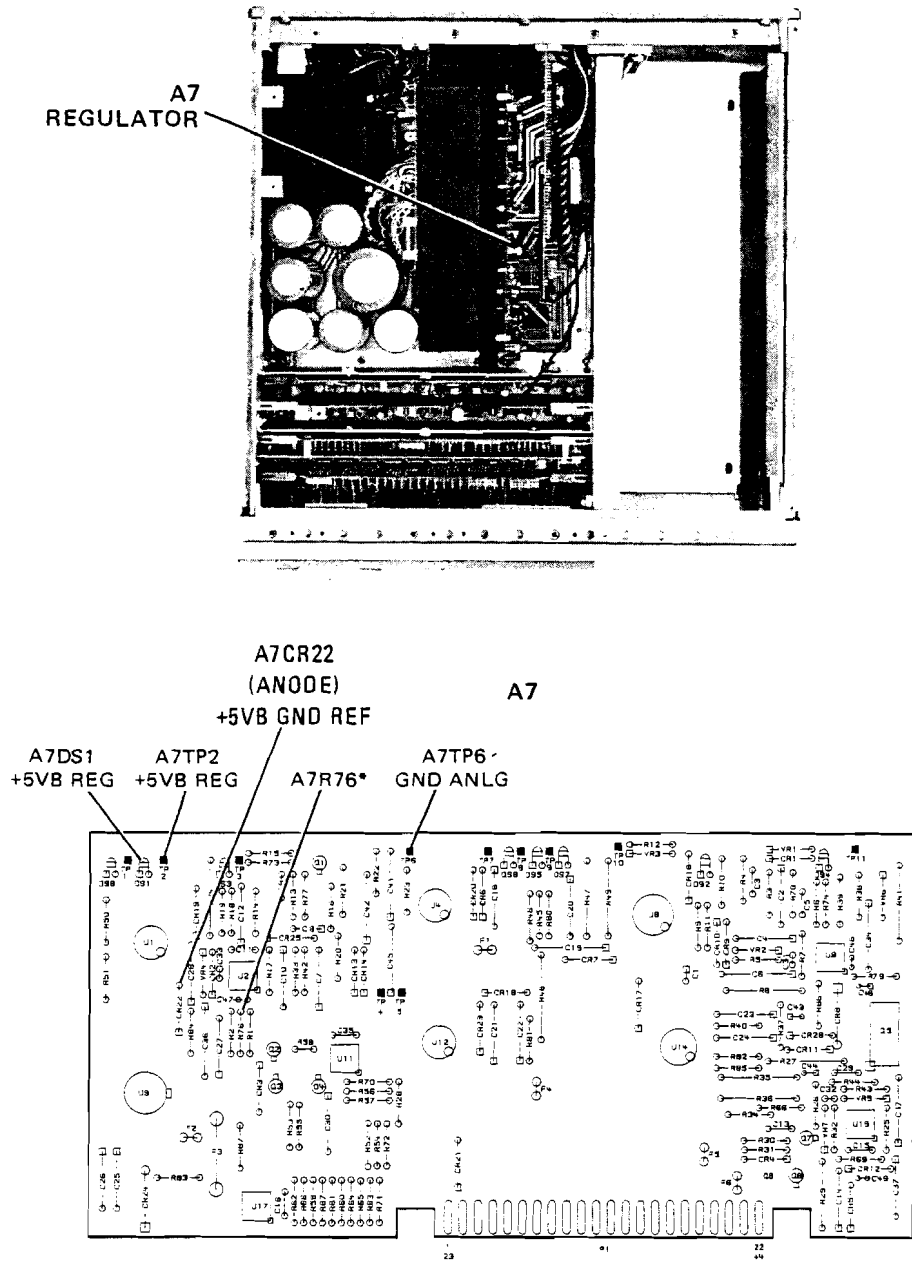

Figure 5-5. Location of +5VB Power Supply Adjustment.
6. The DVM should indicate 5.33 ± 0.03 Vdc. If it does not, A7R76* must be changed as necessary to achieve the proper level. Refer to Table 5-2 for the range of values allowable for A7R76*. Refer to Figure 5-5 for A7R76* component location.